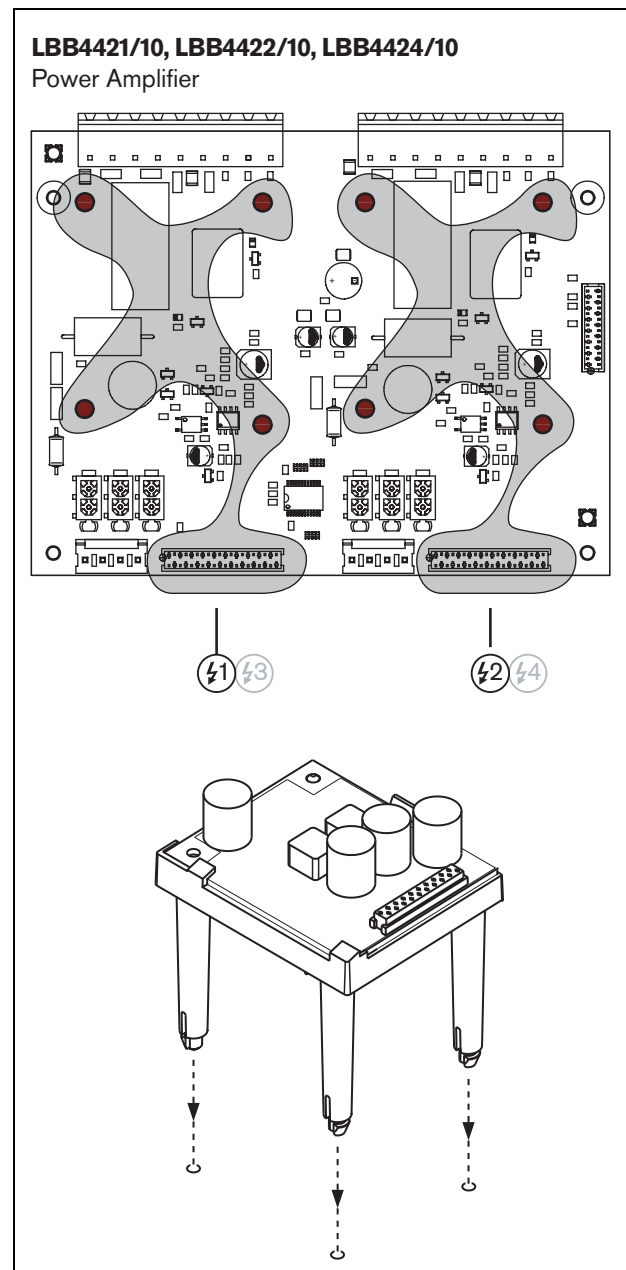

figure 10.4: Installation
- 1 Remove the lid from the power amplifier and locate the output board (see figure 10.4).
- 2 Fit the supervision control board on the supplied 'table' bracket (see figure 10.4).
- 3 Snap the bracket with the supervision control board in the holes in the output board (see figure 10.4).